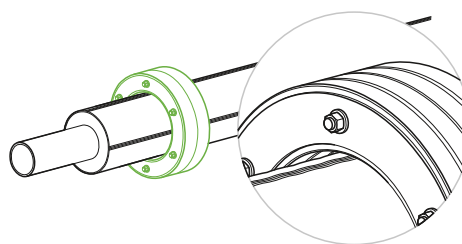

Fig. B6.4
4. Fit the Wall Compression Seal on the casing of the FibreFlex pipe (Fig. B6.4). The Wall Compression Seal nuts must face the inside of the building unless access is restricted.